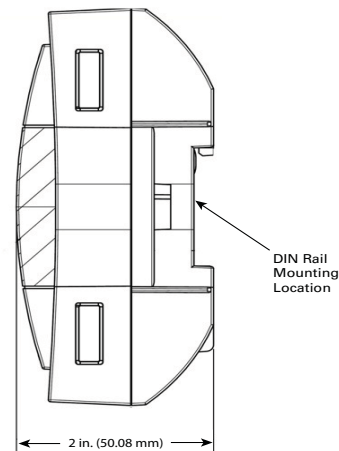

Figure 5. Side view of PCM501, PCM502 and PCM503 enclosure
1. Make sure that the DIN rail is properly mounted on the wall. See Figure 5.